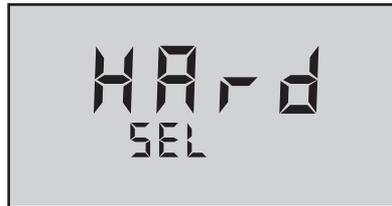

Figure 53
2. Press  or  to toggle between ppm and grains of hardness. No unit icon is lit when grains is selected (see Figure 53).